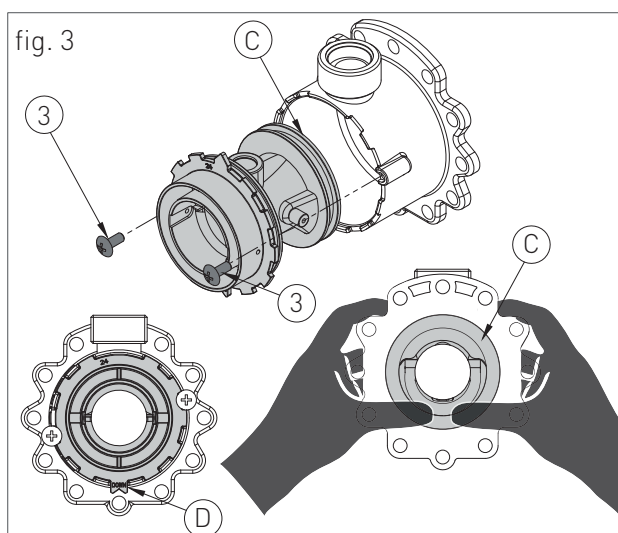

fig. 3
- › remove the two screws '3' (fig.3) and apply pressure on the rear side of venturi 'C' (fig.3);
- › replace the body venturi with the one suitable for the type of supply gas (For the "25 kW" Master unit the venturi's body is code 30-00166 for natural gas / code 30-00169 for Lpg. For the "50 kW" Slave unit the venturi's body is code 30-00225 for natural gas / code 30-00226 for Lpg) and make sure the tooth 'D' (fig.3) is adjusted downwards on the aluminium ring nut (see fig.3);